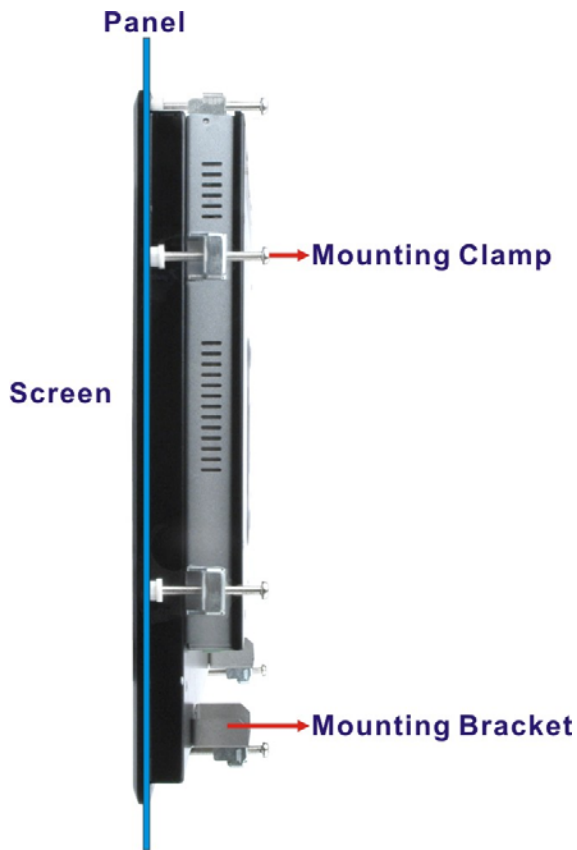

Figure 3-22: Tighten the Mounting Clamp Screws
- Step 5:** Insert the mounting clamps into the mounting brackets and pre-formed holes along the edges of the PPC-F12B/15B/17B-BTi, behind the aluminum frame (Figure 3-22). The required number of mounting clamps may vary by models.
- Step 6:** Tighten the screws that pass through the mounting clamps until the plastic caps at the front of all the screws are firmly secured to the panel (Figure 3-22).